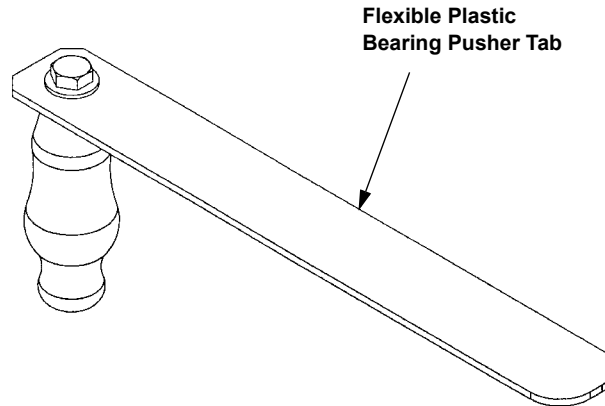

FIGURE 7-7: PLASTIC MAIN BEARING REMOVAL TOOL (B-3340)
- Plastic Main Bearing Plastic Removal Tool (B-3340). Used to push (rotate) out bottom half of bearing shell with crankshaft in place. See Figure 7-7: on Page 7-5.